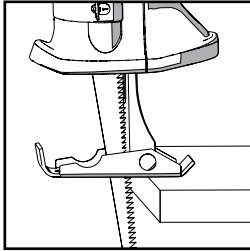

Fig. 6
- Ensure that the workpiece contact plate is firmly in contact with the workpiece but that the blade is not. (**Fig. 6**).